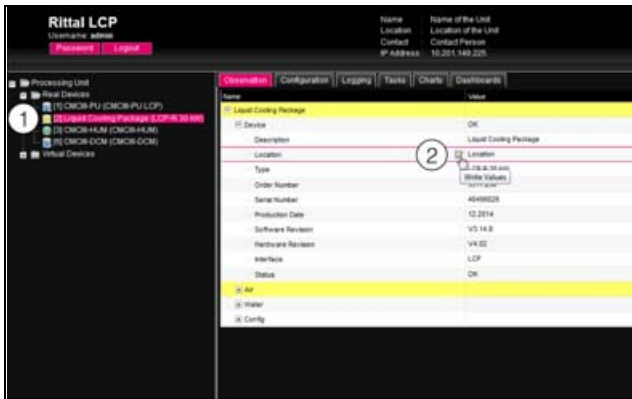

Fig. 98: Selecting an individual parameter
- One after the other, open the "Liquid Cooling Package" and "Device" entries by clicking on the "plus" symbol in front of the entry (fig. 98, item 1).
- Position the mouse pointer at the end of the first column in the "Location" line (fig. 98, item 2). An "Edit" symbol will appear, and the mouse pointer will change to a "Hand" symbol.